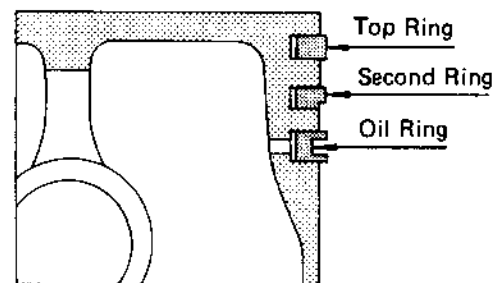

Fig. 6-3-13
- * Be extremely careful not to distort and break ring. Assemble rings in the order of oil ring, second ring and top ring. (See Fig. 6-3-13)